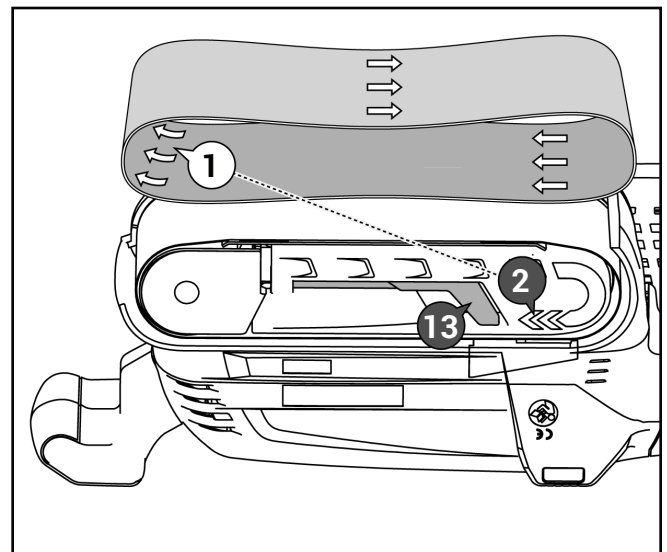

Fig. 2
2. Swivel the belt tensioning lever (Fig. 2 - 13) completely out to release the sanding belt's tension.
4. Mount a new sanding belt (or one of a different grit for use on a new material) on the rollers. Make sure that the arrow on the inside of the belt (Fig. 2 - 1) is pointing the same direction as the arrow on the rear roller (Fig. 2 - 2). Check to make sure that the sanding belt does not touch the sides of the casing.
5. Carefully push the belt tensioning lever (Fig. 2 - 13) back to the original position.